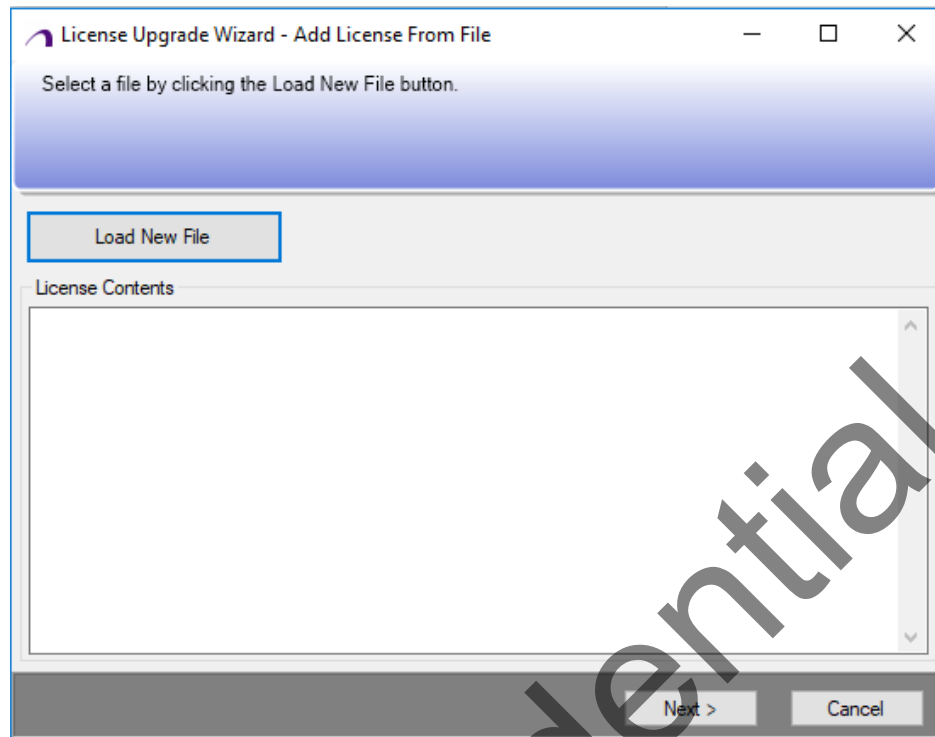

Figure 5-5 License Form File Window
2. Click **Change License** button. You can see the **License Upgrade Wizard – Add License Form File** window opens, as shown in Figure 5-5.